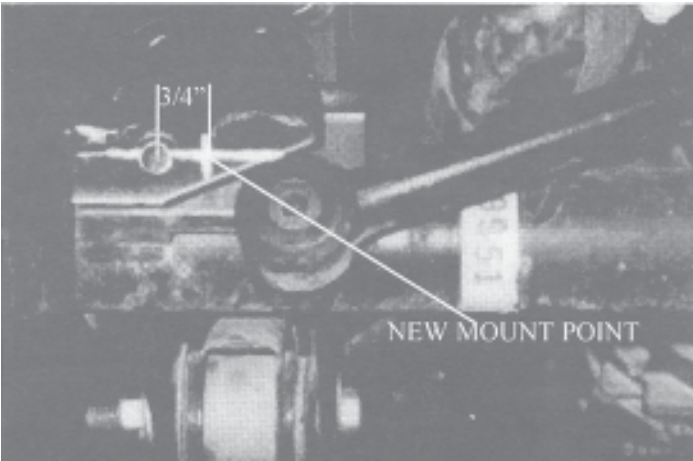

Fig. 2
4. Move track bar mount hole over to the DRV side 3/4" as shown in **Fig. 2**.